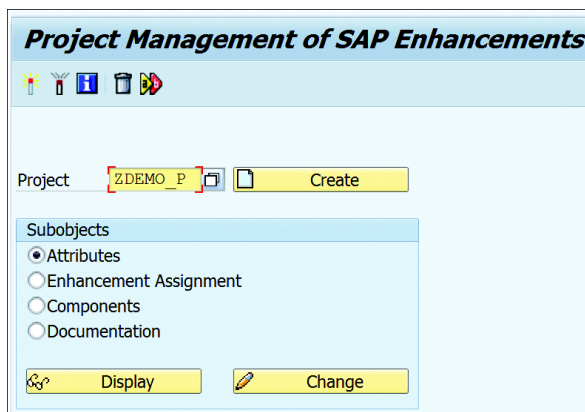

Figure 20.18 Transaction CMOD Initial Screen
1. First, create a project using Transaction CMOD. On the initial screen of Transaction CMOD, enter the name of the project and click CREATE, as shown in Figure 20.18.